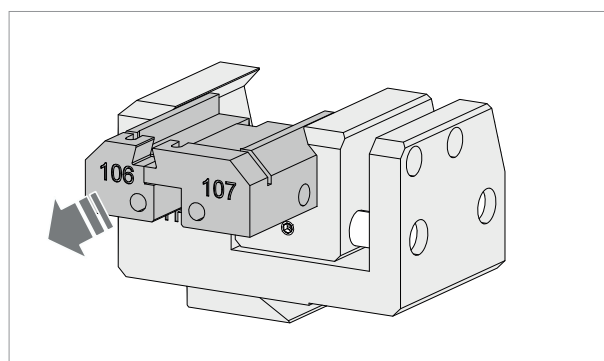

Fig. 45
- 3) Use your fingers to pull the jaw to be removed out towards the operator (Fig. 45).